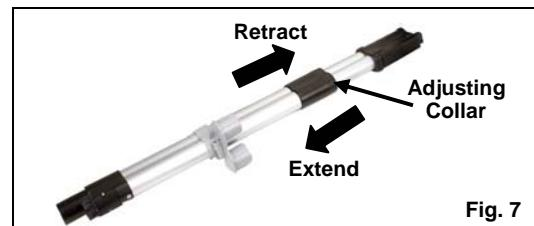

Fig. 7
1. Hold the telescopic tube adjusting collar, push to extend and pull to retract. (Fig. 7)